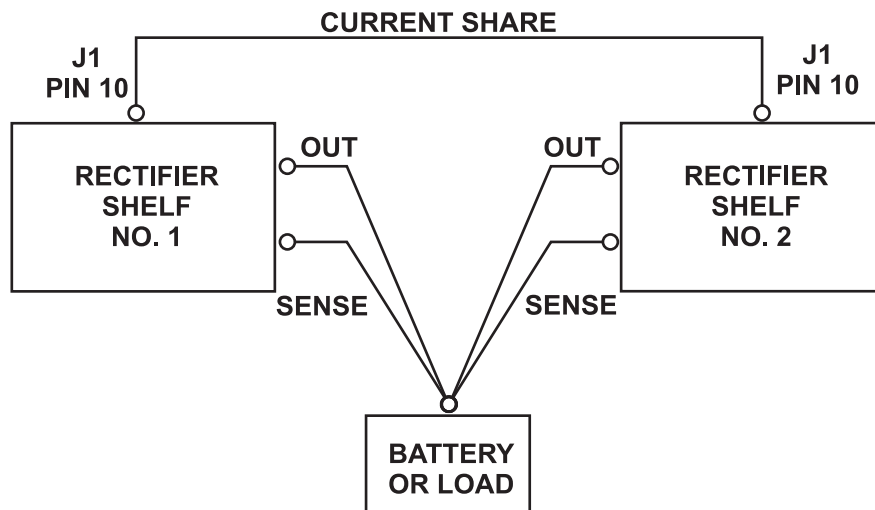

Figure 9. Parallel Connection Vanguard Shelves.
14.3 Multiple Parallel Shelf Operation. Multiple shelves can also be operated in parallel by interconnecting their current share terminals (J1 Pin 10). The total power can be expanded by several times. In this case N+1 redundant operation is achieved by reserving one module of the total for redundancy. For example, if two full 19-inch shelves are employed with a total of six rectifier modules, then for 5+1 redundancy the full load must be able to be carried by the output of five modules. In such applications each set of remote sense wires must be separately connected to the battery or point of load. See Figure 9 for a simplified illustration of two rectifier shelves connected in parallel.